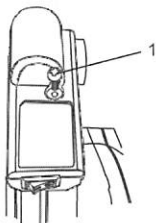

Fig. 12
2. Remove the laser cover screw (1) using a #2  screwdriver (Fig. 12).